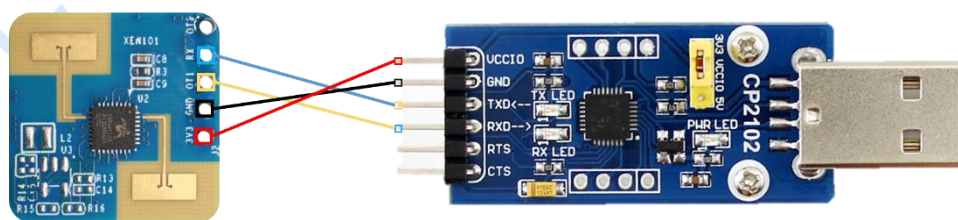

Figure 4-1 Connection between Xen101 hardware and USB serial board
Step 1: Connect the radar module with the host PC using a USB-TTL serial transfer board; the connection of pins is listed in Table 4-1 and shown in Figure 4-1.
Step 2: Connect the XenD101MM module to the host PC according to Figure 4-1.